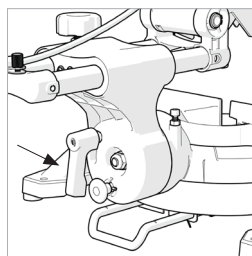

Fig. 33
- Loosen the bevel lock lever. (**Fig. 33**)